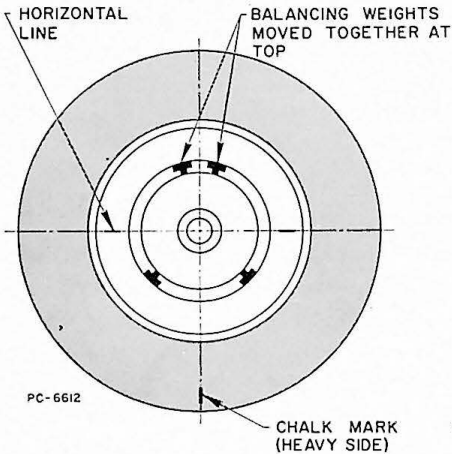
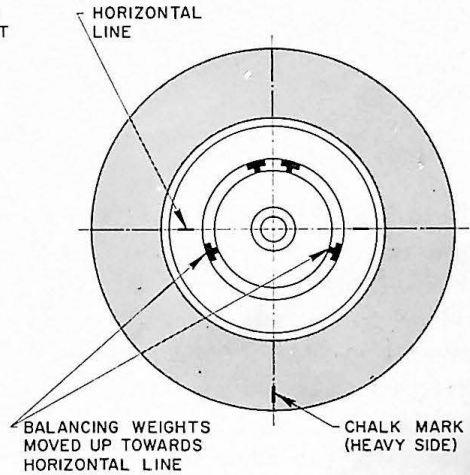

Figure 45A
Figure 45B
6. Move the two top weights towards one another, as in Figure 45A, until arriving at conditions of perfect balance. If the wheel is still out of balance when the two top weights are moved towards one another until they touch, it will then be necessary to move the two lower weights up towards the horizontal chalk mark until the wheel is in balance, as in Figure 45B.